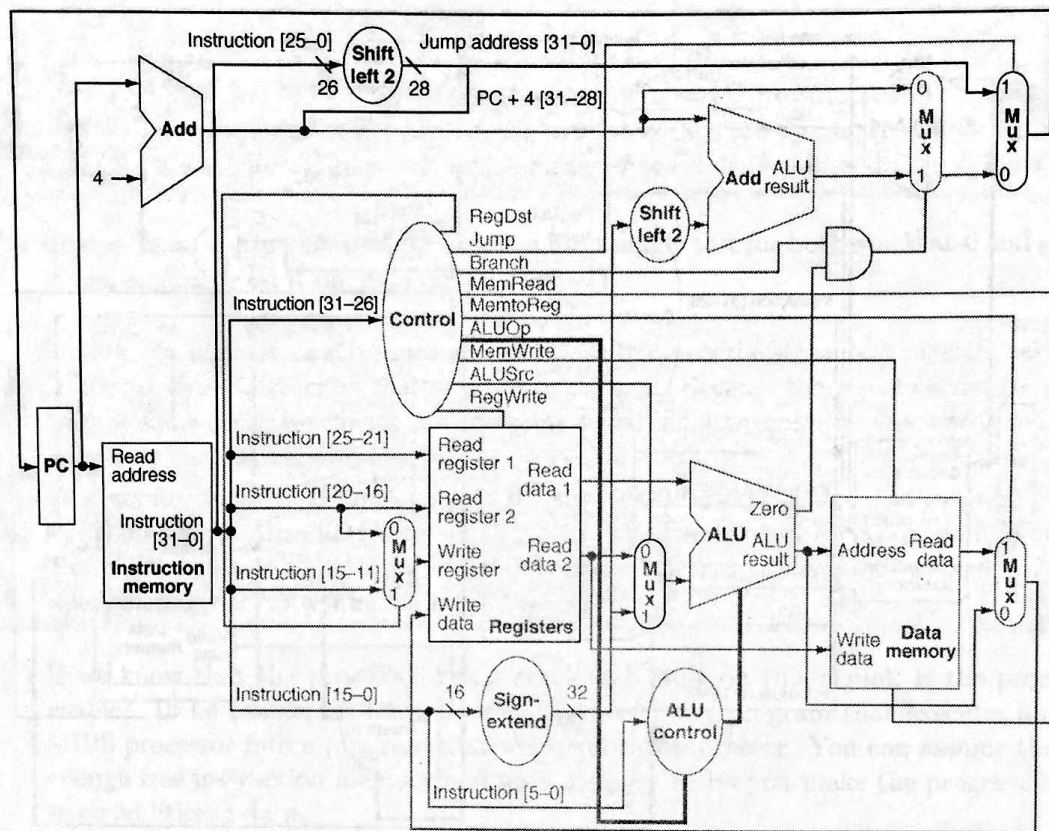

Figure 1: Single-cycle, non-pipelined RISC processor
- (a) Design this instruction. Specifically, (1) state whether this instruction would be an “R-type”, an “I-type”, or a “J-type”, then (2) show how each of the bits in the instruction is allocated (which are used for the op-code, which specify immediate values, etc.).
- (b) Make any necessary additions (control lines, muxes, etc.) to Figure 1 below. To be awarded full credit, you must make the fewest changes possible.